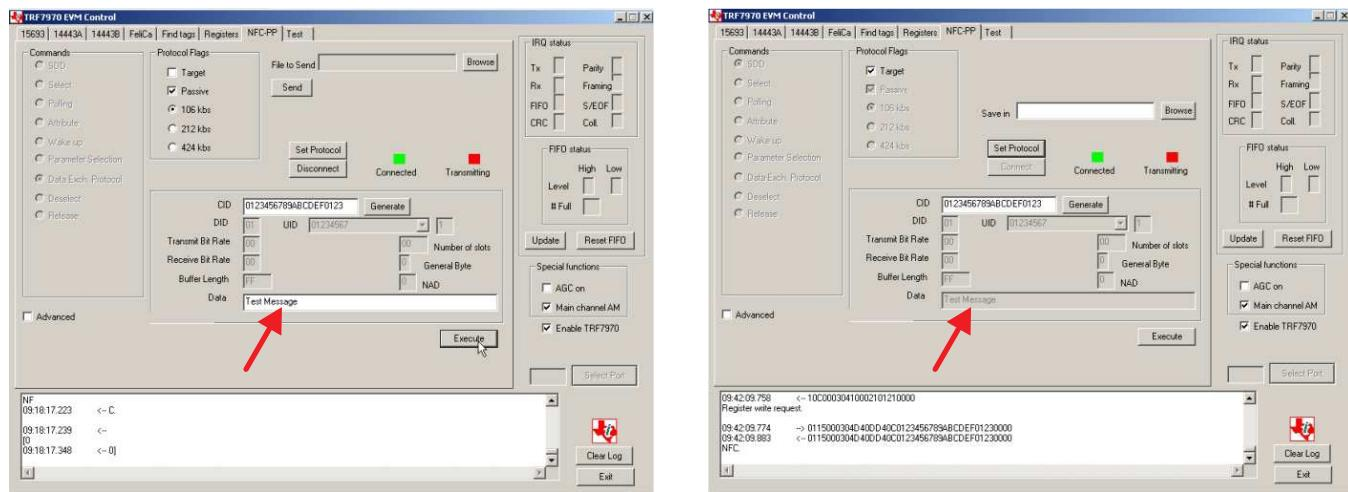

Figure 34. NFC Text Message Transfer
4. Look at the Target GUI window and observe text message that was sent (see red arrows in Figure 34).